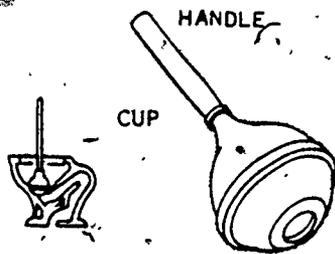

Figure 3-50. Force cup.
*Force cup.* A similar tool called a force cup, see figure 3-50, is used on fixtures such as water closet bowls and wall-hung urinals that have integral traps. These fixtures have cone-shaped bottoms that enable the force cup plunger to be more effective than the vacuum plunger. To achieve the best results with a force cup, insert it down into the outlet of the fixture with water as near the top as possible. Alternate pushing and pulling strokes of the handle should work the obstruction loose and flush it down the drain. Do not use this method of clearing a stoppage when it is suspected that a large or irregular-